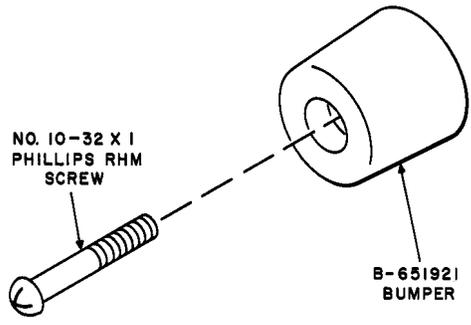

Fig. 5—B-651921 Bumper With Mounting Screw
*The B-651921 bumper (Fig. 5), listed in Table A, is a replacement part; however, all booths have not been equipped with these bumpers. A No. 10-32 tapped hole is provided on the right side rail for installation. Ensure that this bumper is either present or is installed on each maintenance check. Use screw described in Fig. 5.*